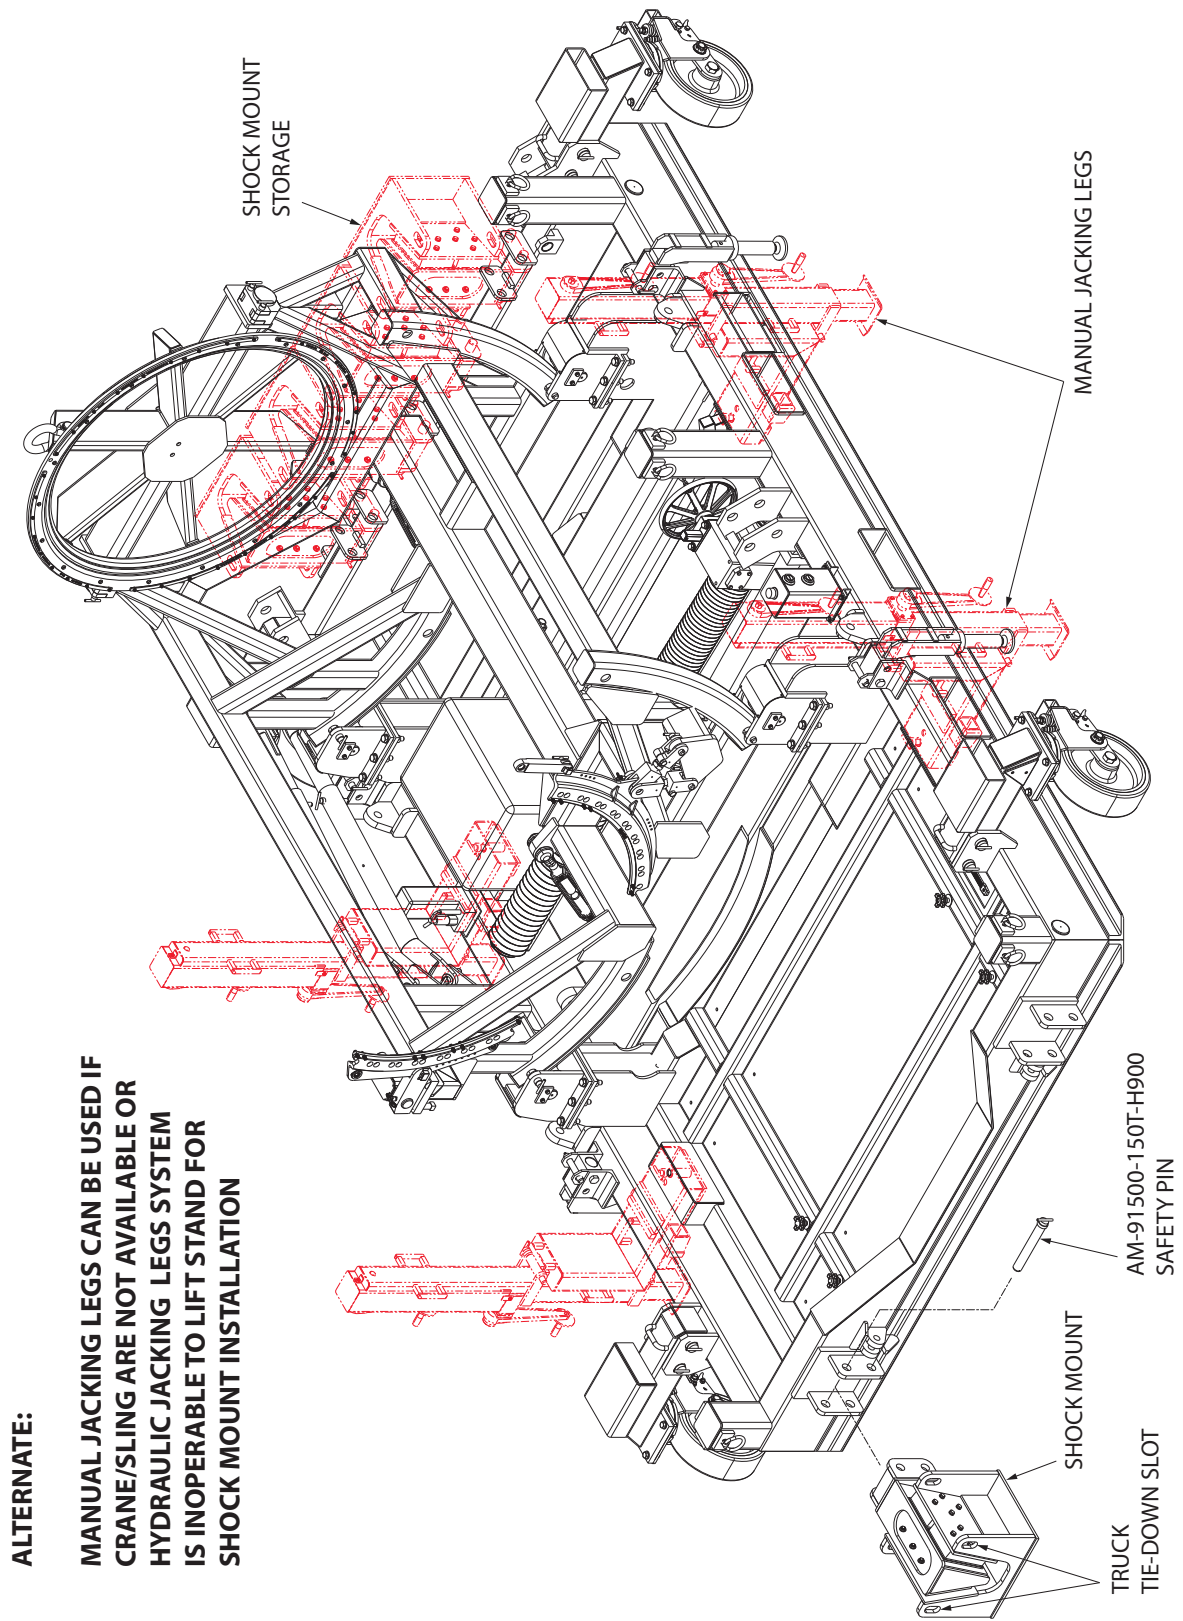

Figure 5.10-1
3. Install the shock mounts on stand base and secure with the safety pins. (Figure 5.10-1).